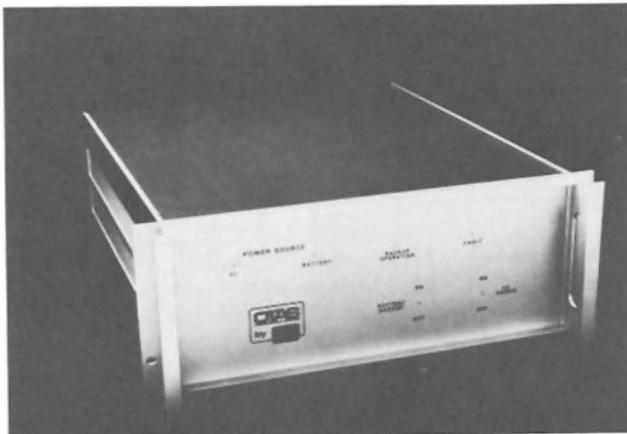

Fig. 9 Pico Data Controller
1. Pico Data Controller (Figure 9)